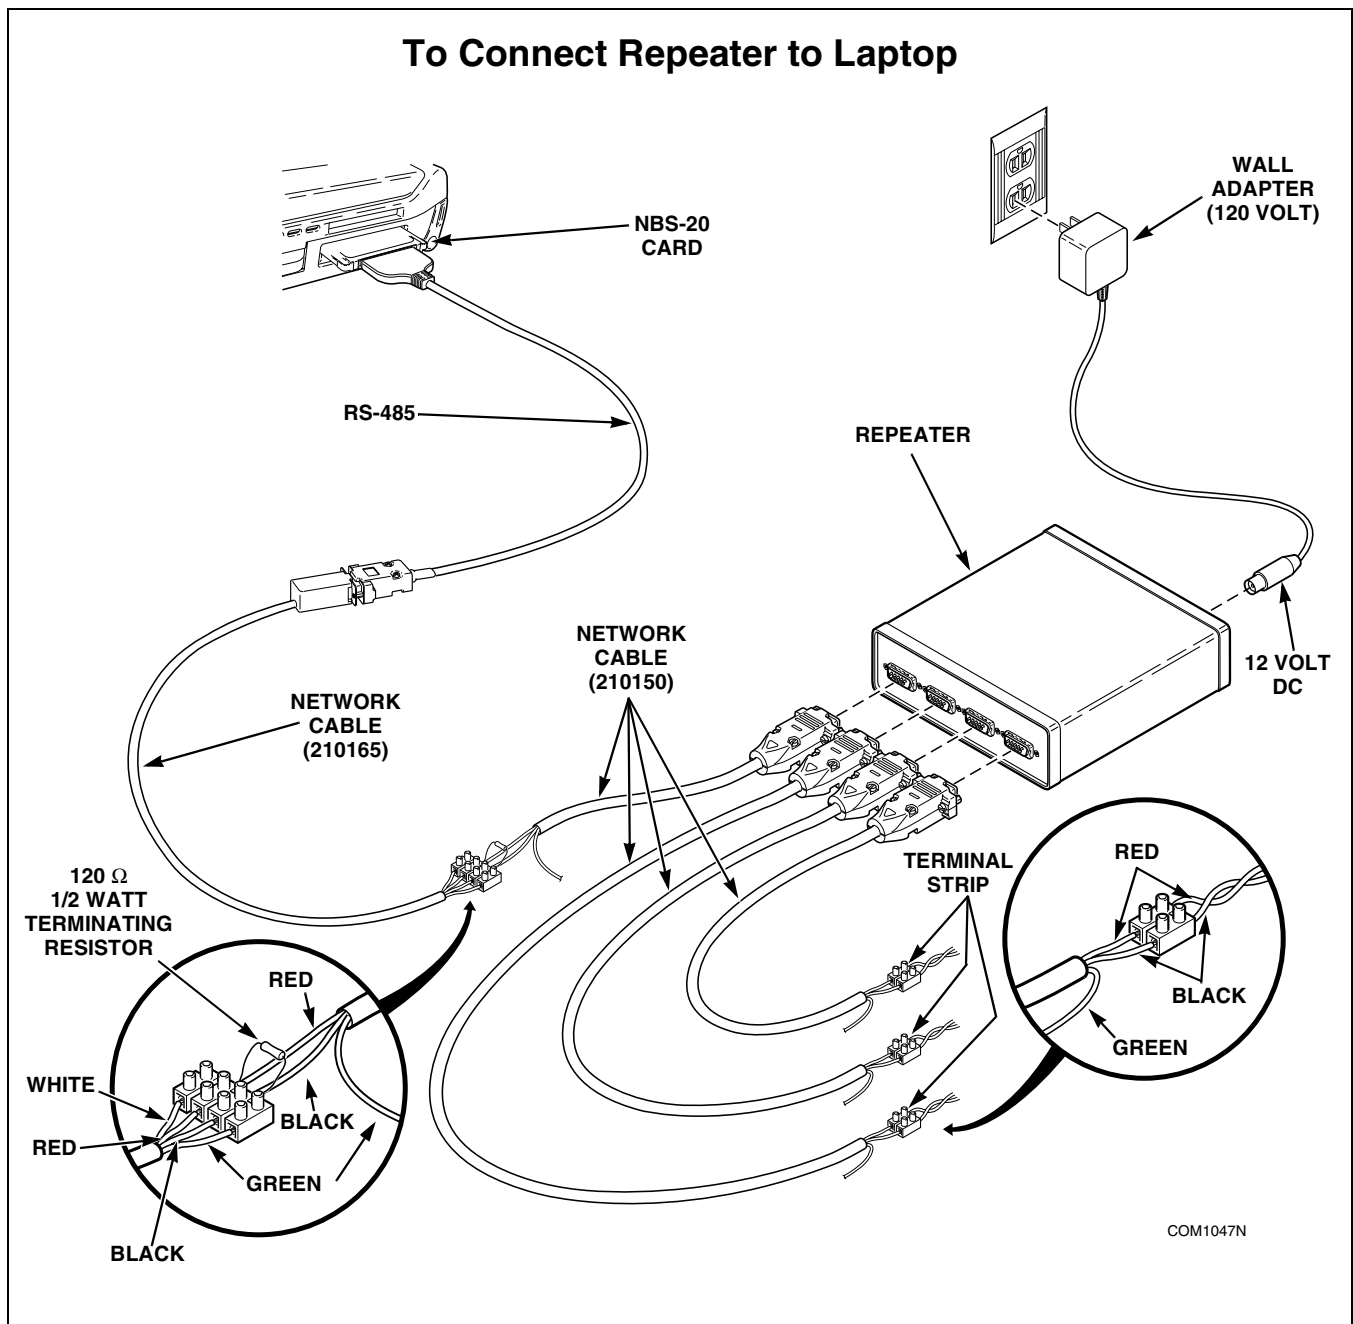

Figure 9
**NOTE:** If connecting the repeater to a laptop, a terminating resistor must be used. Refer to the section on “*Interfacing a Laptop to Machines*” on page 5. Refer to *Figure 9*.